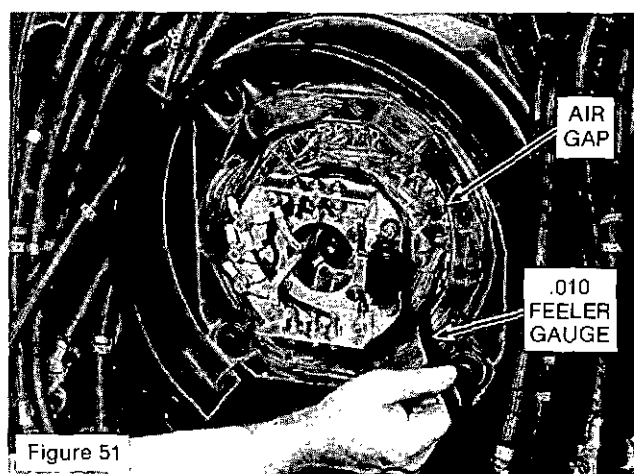

Figure 51
8. Check the exciter air gap (gap between the exciter armature and stator) by inserting a .010 inch feeler gauge in the gap and rotating it around the armature diameter to ensure that a minimum air gap is available. (See Figure 51.) If the feeler gauge cannot be rotated one full revolution, then check for a "cocked" exciter stator or loose stator mounting capscrews.